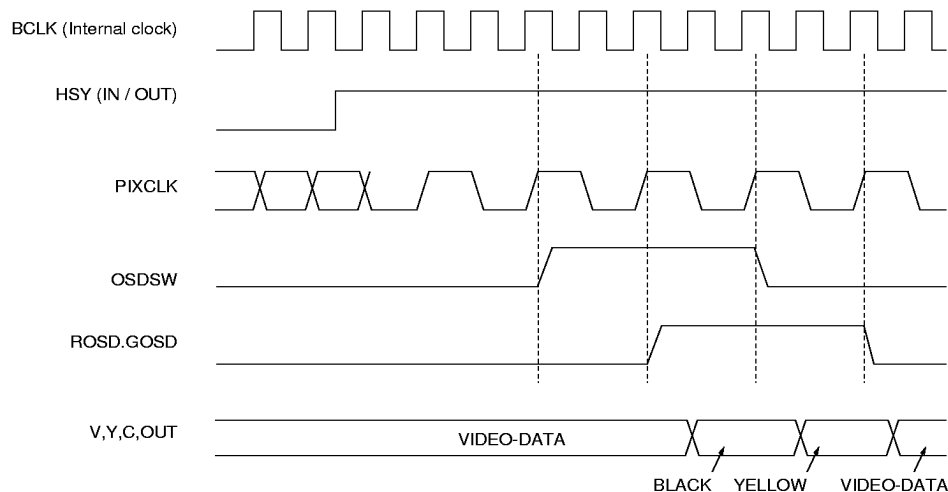

Fig.15 Clock timing with the OSD function
* The frequency of the PIXCLK pin output is one-half that of the internal clock. This phase is determined at the rising edge of HSY, as shown in Fig. 15. (In the Encoder Master mode, phase correction is implemented using the HSY output of the BU1424K itself.) The OSD function is effective only during the time that video output is enabled.